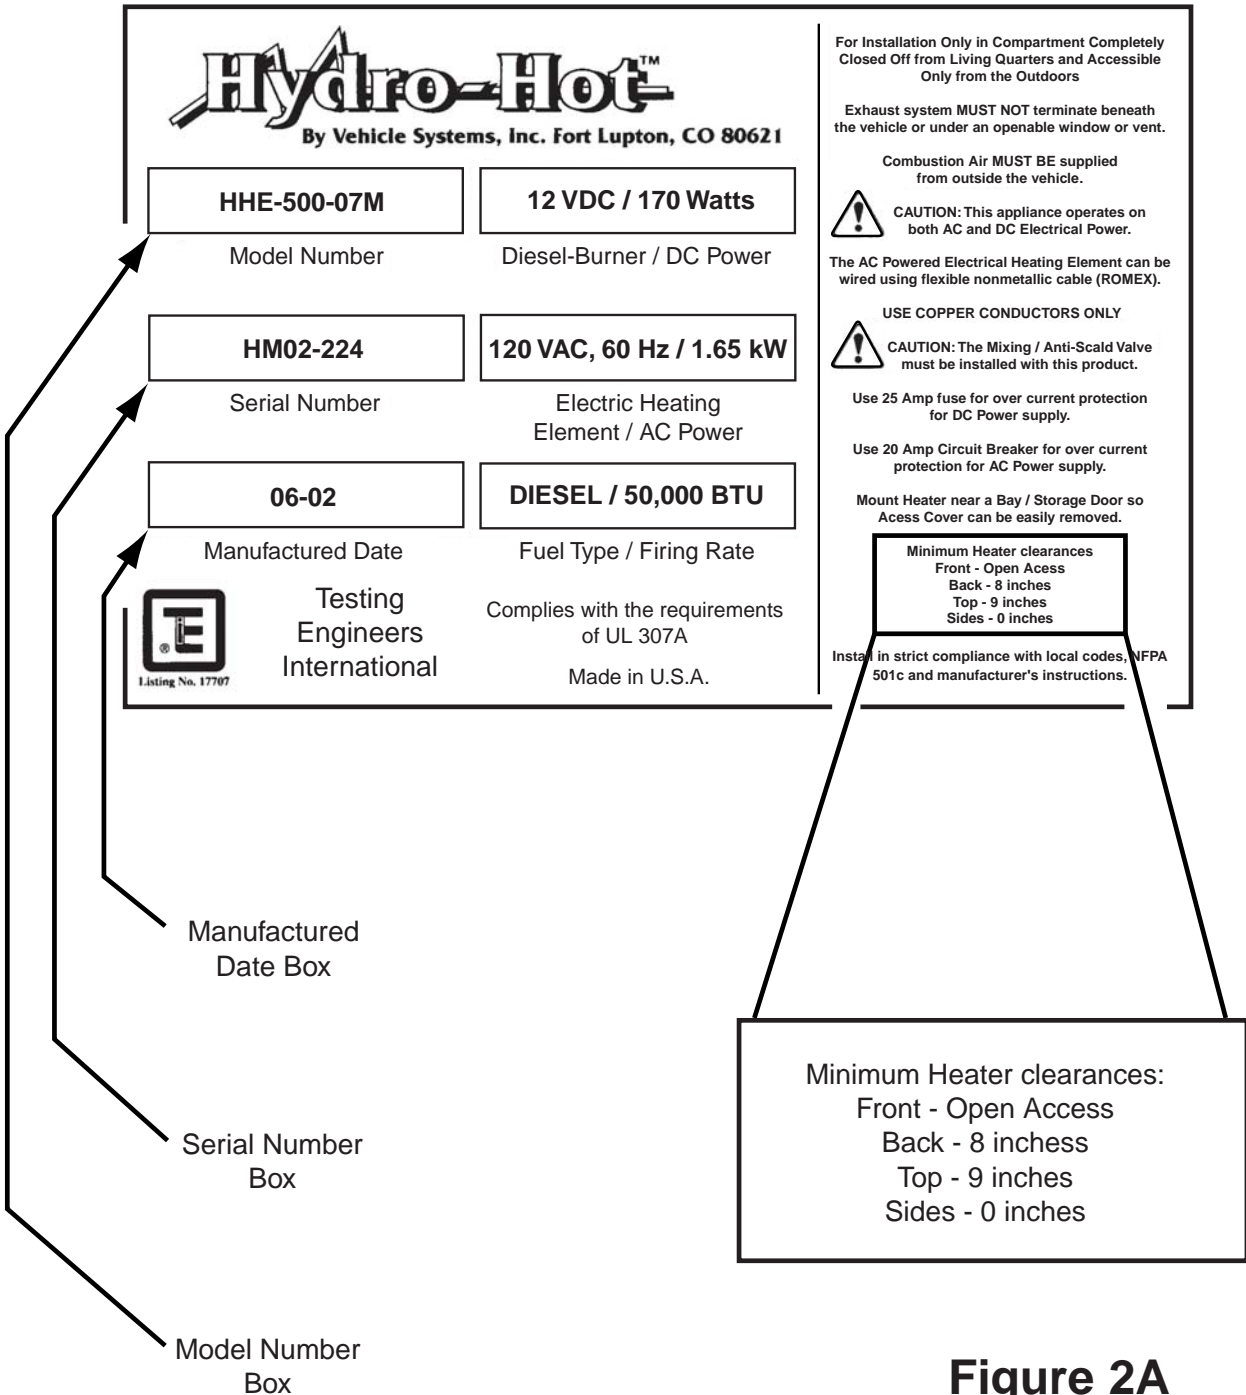

Figure 2A
- Minimum Heater clearances, see Figure 2A.